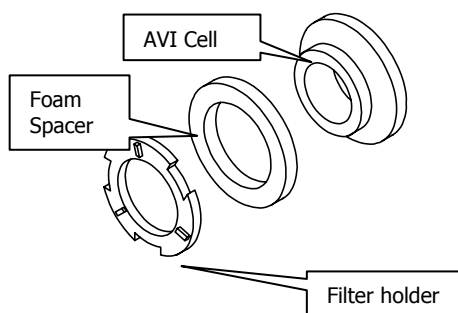
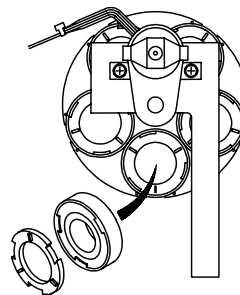

Figure 46 AVI Cell orientation
Figure 47 AVI Cell installation
2. Place the cell in the next available filter position, orientated as shown in Figure 46 and Figure 47, and place the spacer on top of it.